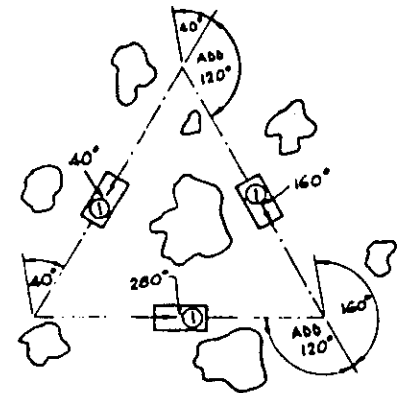

Figure 405 Compass Triangle Game or Equilateral Triangle
92. Play the compass triangle game (the equilateral triangle). Play the game by putting a small object such as a coin on the ground. Set your compass at any degree bearing less than  $120^\circ$  (as an example,  $40^\circ$ ). Walk for 200 steps following the  $40^\circ$ . Add  $120^\circ$  to the original degree reading and reset your compass (in the example this would make it  $160^\circ$ ). Walk 200 steps in this new direction. Again, add  $120^\circ$  to the second degree reading (this would make it  $280^\circ$ ). Reset the compass and walk another 200 steps in this third direction. Stop. Bend over and pick up your coin. See Figure 405.